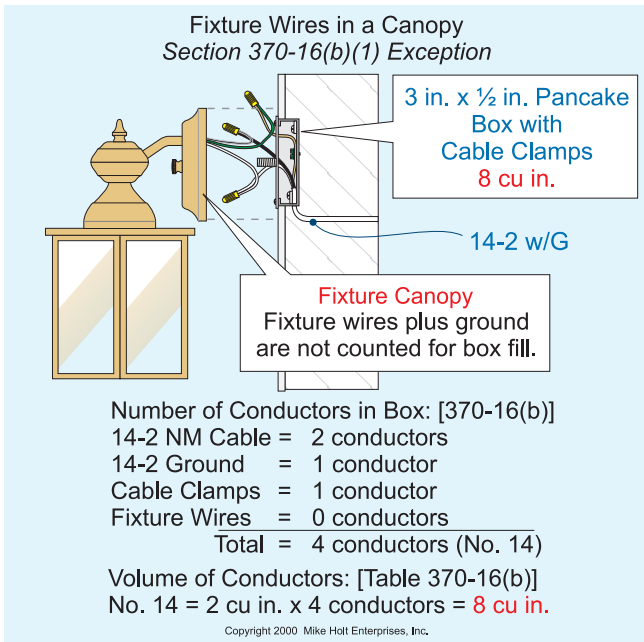

Fig. 2. Box fill requirements when working with fixture wires in a canopy.
Step 1: First, determine the number and size of conductors within the box (**Fig. 2**).